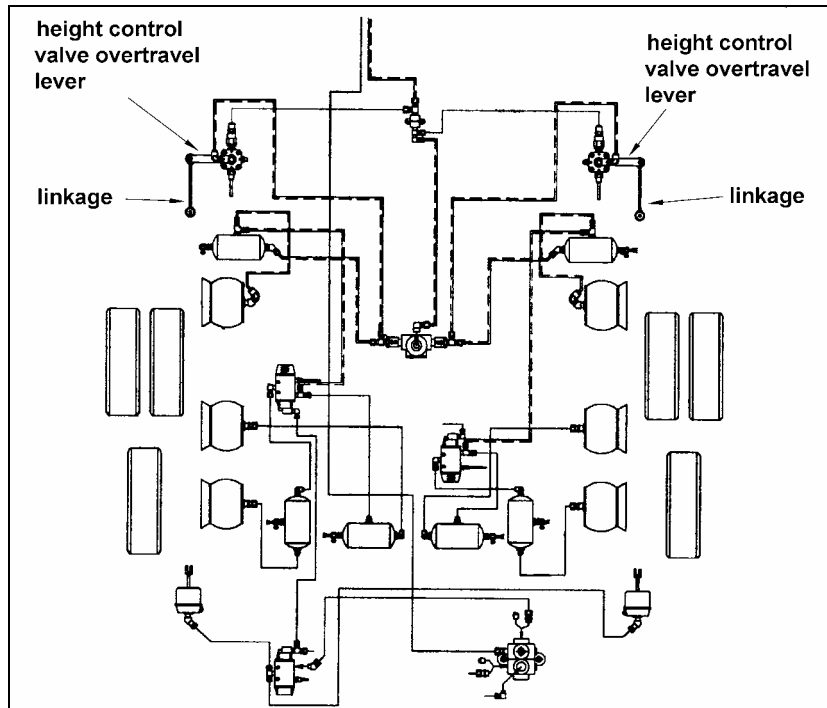

FIGURE 1: HEIGHT CONTROL VALVES
3. Release air from drive axle air springs. To do so, detach the height control valve linkage each side of vehicle. Lower the height control valve overtravel lever to release air (figure 1).